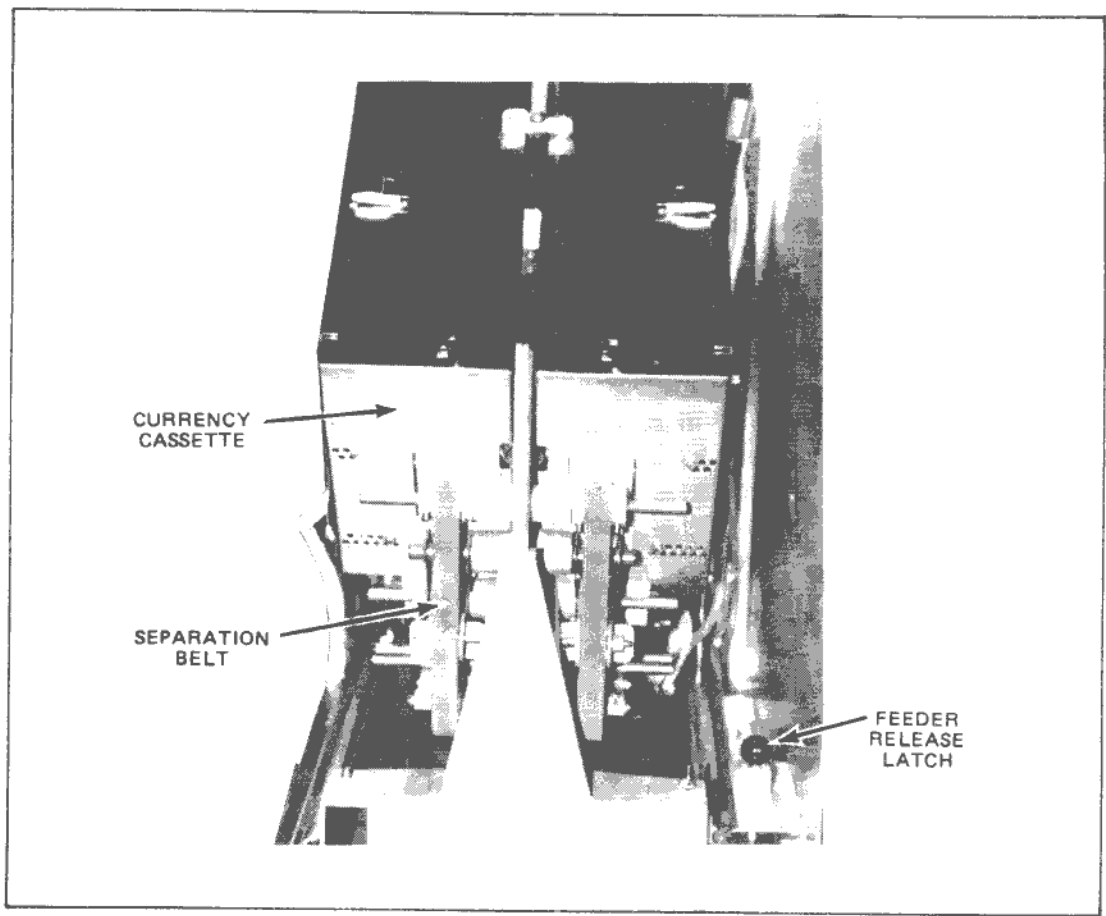

Figure 3-16. The Currency Dispenser System
1. With the safe door open, lift the Feeder Release Latch (refer to figure 3-16) and pull the feeder mechanism out from the safe along its support rails. The Feeder Release Latch must be raised for at least the first 1 cm of travel.